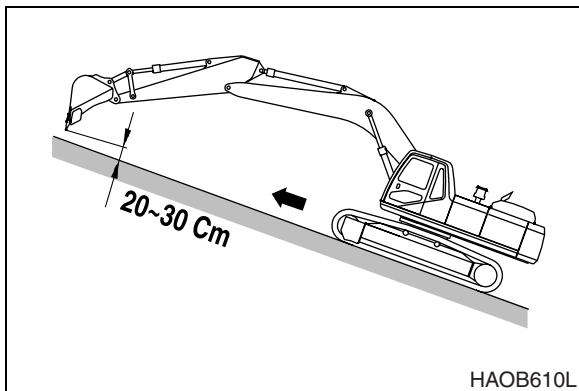
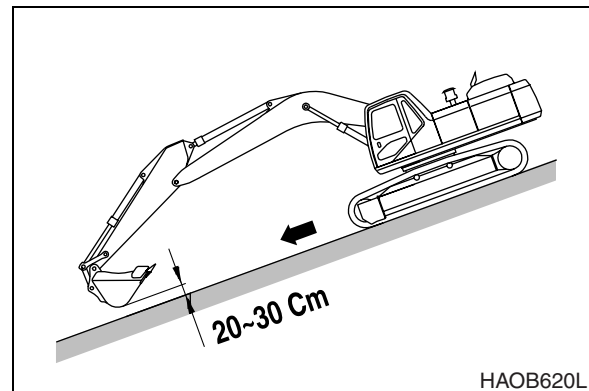

Figure 34
Figure 35
- Travel straight up or down slopes, never diagonally across the slope. See Figure 34 and Figure 35. Extend the arm and lower the boom to keep the bucket about 20 - 30 cm (8 - 12 in) off the ground. If the machine starts to slide or becomes unstable, lower the bucket to regain control. If the engine stalls, lower the bucket, make sure that all controls are in the neutral position and restart the engine.